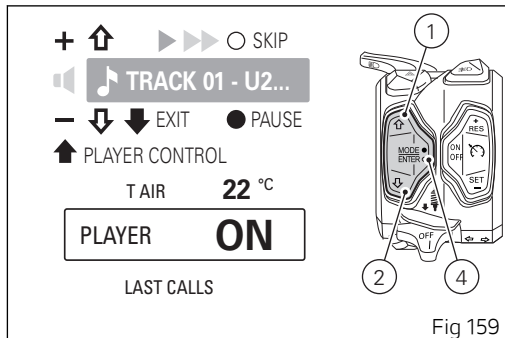

Fig 159
Press button (4) to switch it on. The instrument panel shows "PLAYER ON" and displays the Player menu above the Menu (Fig 159).
When the Player is turned on, within Player control page (Fig 159), button (1), button (2) and button (4) can only be used to control the Player:
- Volume up: Press button (1) once.
- Volume down: Press button (2) once.
- Pause / Play: Press button (4) for 2 seconds.
- Skip / Next track: Press button (4) once. Each press corresponds to a track skipped.